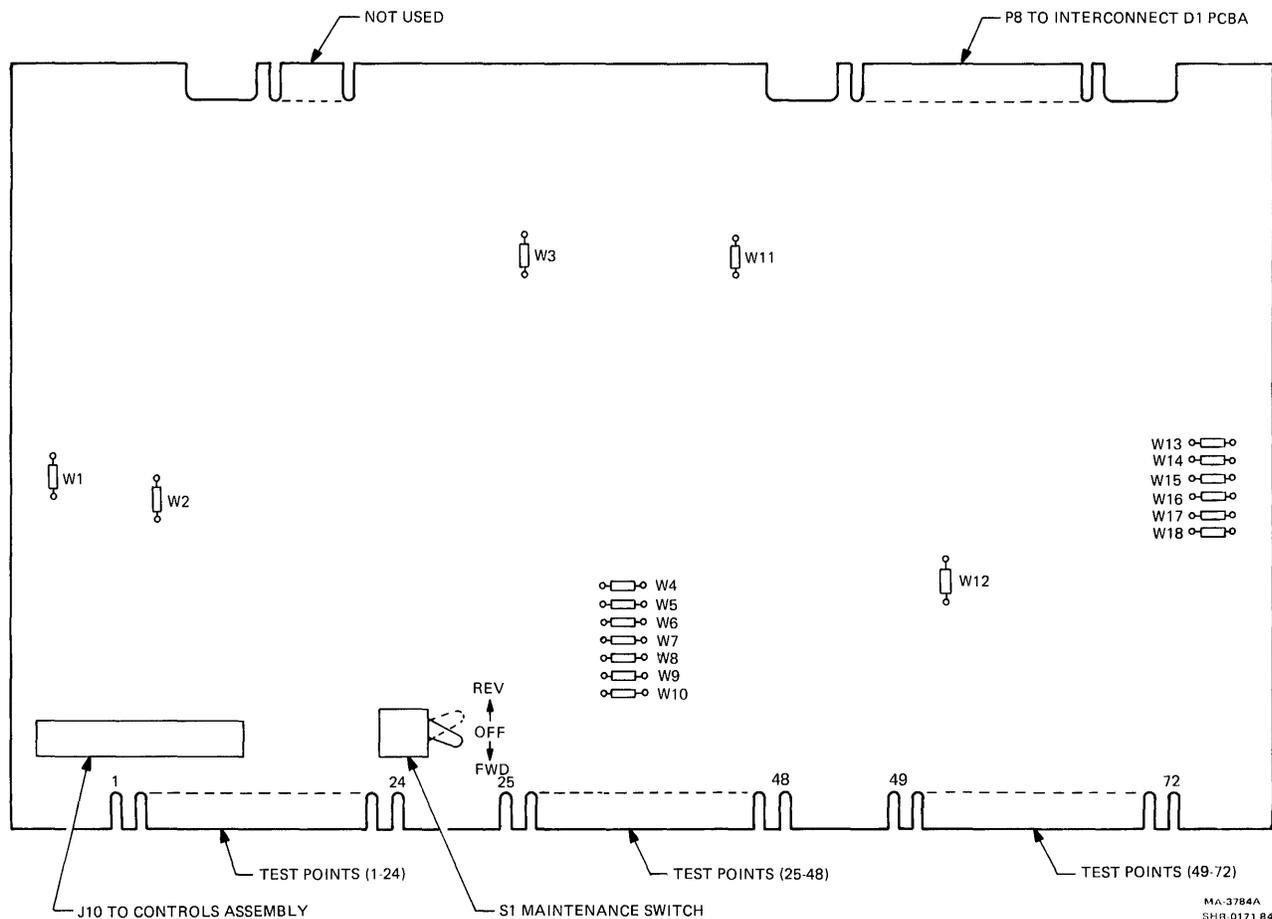

Figure 3-6 Control M2 PCBA Adjustments and Test Points
5. Place maintenance switch S1 on the control M2 PCBA (Figure 3-6) toward the front of the transport to drive tape forward.
4. Remove red cap from air bearing pressure port (N) and connect a differential air gauge with a range of 0 -- 34 kilopascals (0 -- 5 psi). Use the high pressure input of the air gauge to measure pressure.
5. Place maintenance switch S1 on control M2 PCBA (Figure 3-6) toward the front of the transport to drive tape forward.
7. If the reading is out of tolerance, loosen the locknut and adjust the air bearing pressure adjustment screw (J) for a 25.8 kilopascals (3.75 psi) reading.
An alternate procedure for measuring capstan speed is to measure the frequency of the tach pulses. Connect a scope to control M2 PCBA, TP40 (Figure 3-6). The time period from trailing edge to trailing edge should be 80 ± 0.8 us.